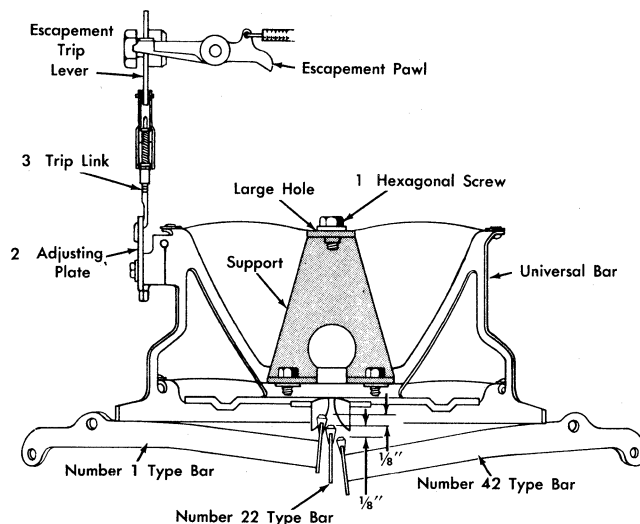

Figure 15. Escapement Adjustment
1. The universal bar is adjusted so that all typebars trip the escapement pawl at the same distance from the platen. The rear spring of the universal bar is mounted on an enlarged hole and is locked to the support by a hexagonal screw (Figure 15). The screw is located under the carriage final stop on the front rail and may be reached from the bottom of the machine. To position the universal bar, loosen the screw and make sure the spring is free from the support. Then position the three typebars close to the type guide as shown in Figure 15 so that they bind each other in position. Tighten the screw to lock the universal bar in position and test the adjustment by operating the typebars by hand to observe that the tripping point is equal.
2. The adjusting plate on the universal bar is positioned so that the tripping of the escapement pawl will be even in both upper and lower case (Figure 15).
3. The spring clevis of the trip link is adjusted to trip the escapement pawl out of the rack when the type face of any bar is ⅜" ± ⅛" from the platen (Figure 15).